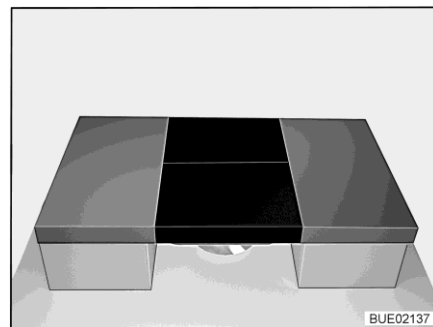

Fig. 122 After conversion
- Place two additional cushions on the table (see Fig. 122).